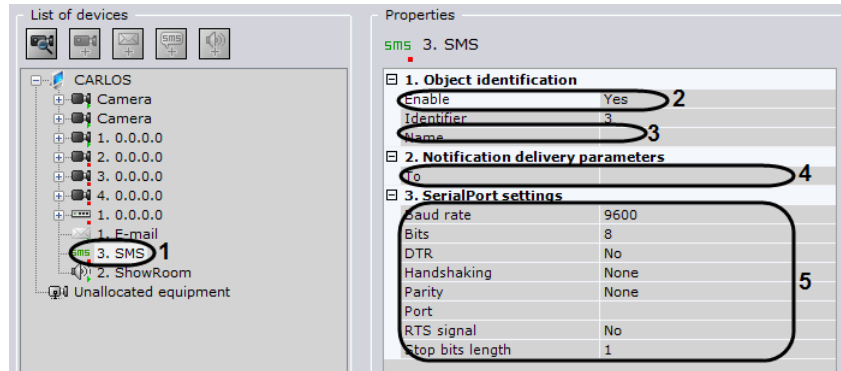

Fig. 6.4—37 Configuring an SMS object
1. In the list of devices, highlight the **SMS** object which needs to be configured (Fig. 6.4—37, 1).
2. Activate the **SMS** object (see Fig. 6.4—37, 2) by selecting **Yes** in the **Enable** list.
3. In the **Name** field (see Fig. 6.4—37, 3), enter the desired name for the **SMS** object.
4. In the **To** field (see Fig. 6.4—37, 4), enter the cellular telephone number in the international format (+<country code>xxxxxxxxx) to which messages will be sent.
5. In the **SerialPort settings** group (see Fig. 6.4—37, 5), indicate the port settings used to connect to the GSM modem by which SMS messages will be sent: